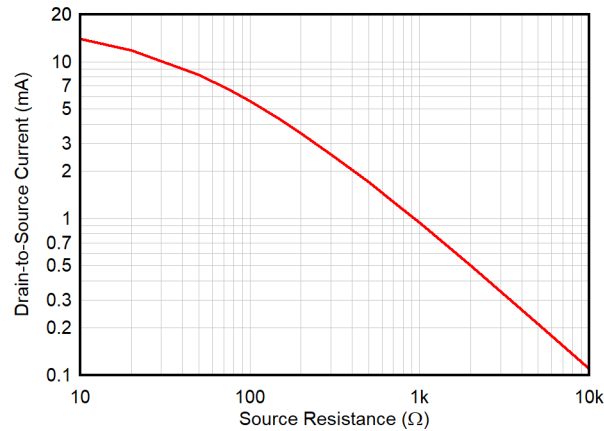

Figure 9-4. Drain-to-Source Current vs R_S , $V_{DS} = 5\text{ V}$
R_S , and the threshold voltage, V_T , of the JFE2140. For JFETs, this threshold voltage is equivalent to the gate-to-source cutoff voltage, $V_{GS(C)}$. A graph showing nominal I_{DS} vs R_S is shown in Figure 9-4.
R _{S2}	Bias-current setting resistor. This resistor, along with R _{S1} , determine the bias current when using resistive biasing (see Figure 9-4). Be aware that both R _{S1} and R _{S2} resistance directly impact noise performance.
- The bias current is set by selecting the desired bias current and noise tradeoff (see Figure 6-16). To set the bias current point, adjust the source resistance according to Figure 9-4.